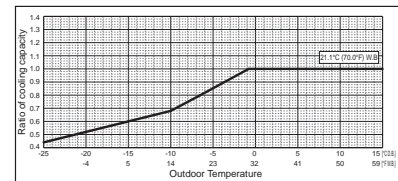

Figure 5 Outdoor unit temperature correction
(5) Outdoor Unit Correction Calculation
- Outdoor Design Wet Bulb Temperature Correction (35.6°F) 1.0 (Refer to Figure 5)